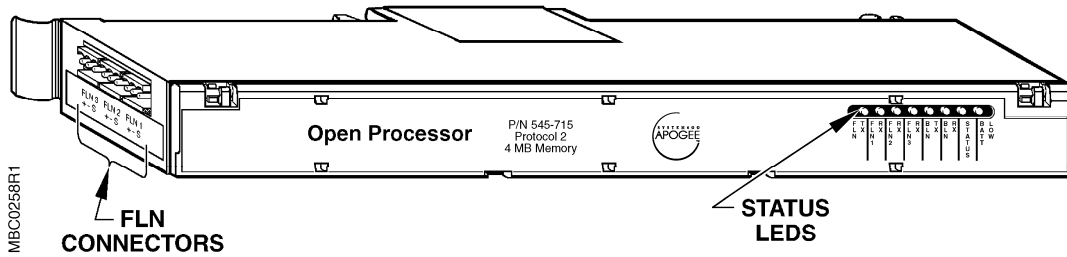

Figure 3. Front View of the Open Processor/Protocol 2.
11. Remove the pre-wired FLN connectors from the temporary cover and plug them into the corresponding ports on the left side of the Power Open Processor/Open Processor. These ports are labeled FLN 1, FLN 2, and FLN 3 (see Figure 3). The screws for the connector should be pointing down.
13. Plug the pre-wired FLN connectors into the corresponding ports on the left side of the Power Open Processor/Open Processor. These ports are labeled FLN 1, FLN 2, and FLN 3 (see Figure 3). The screws for the connector should be pointing down.